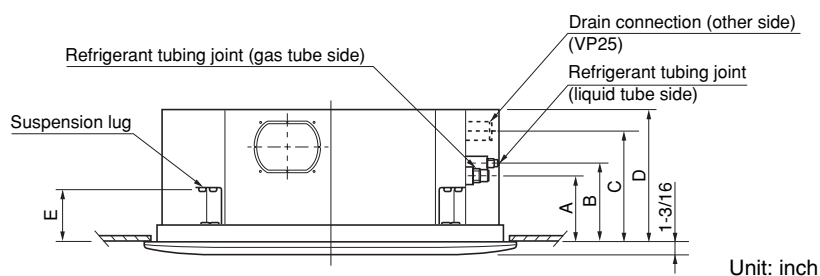

Fig. 3-3
- (3) Determine the pitch of the suspension bolts using the supplied full-scale installation diagram. The diagram and table (Fig. 3-3 and Table 3-2) show the relationship between the positions of the suspension fitting, the unit, and the panel.